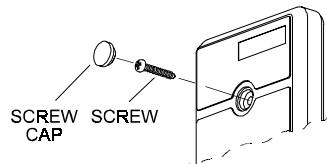

Figure 4. Front cover Assembly
A. Remove the screw and the front cover (see Fig. 4). The round plastic cap is supplied separately in a small nylon bag.
- A. Position the front cover hole over the LED. Secure the front cover with the screw and mount the plastic cap (see Figure 4).